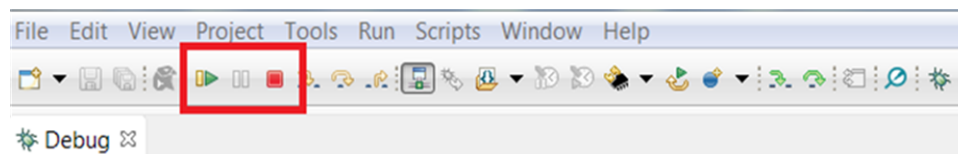

Figure 26. Execute Buttons
- Step 8. When the CCS software is connected to the device, run the program from CCS to execute the program in hardware by clicking the green play button (see Figure 26. Click the red stop button ((see Figure 26) to disconnect the MSP-FET430UIF from.